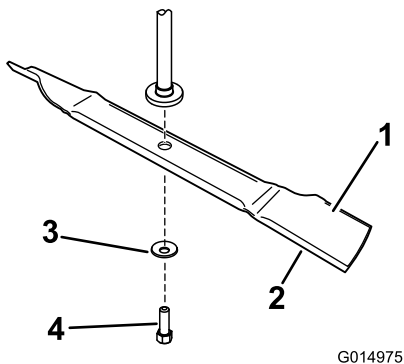

Figure 62
2. With the wrench still on the blade bolt, hold the blade spindle stationary and using a rag or thickly padded glove, try to rotate the blade. If the blade rotates relative to the spindle guard without further tightening the blade bolt, the spring disc washer has been flattened or damaged and the bolt and washer assembly must be replaced (Figure 62). Refer to **Removing the Blades** and **Installing the Blades**.
Hold the blade end using a rag or thickly-padded glove. Remove the blade bolt, curved washer, and blade from the spindle shaft (Figure 62).
1. Install the blade onto the spindle shaft (Figure 62).